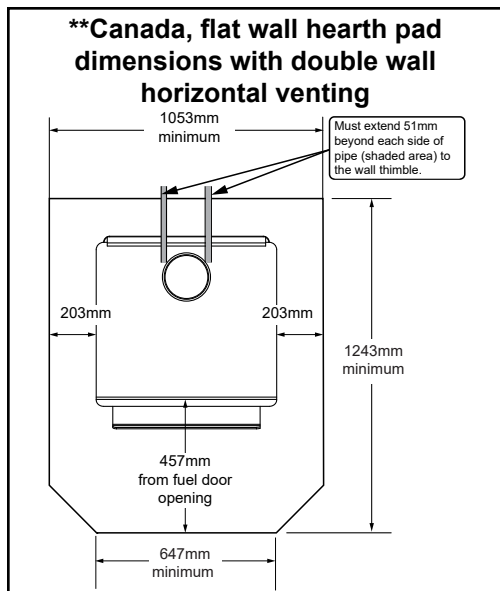

Figure 9.2 - \*\*This dimension will vary depending installation.
**In Canada,** similar floor protection must be provided 18 inches (457mm) in front and 8 inches (203mm) from the sides and rear of the appliance unless the hearth pad is placed against the wall (**Figure 9.2**). Then the clearance may be reduced using double wall pipe and the **Clearance to Combustibles** table listed on **page 10**.
**\*Exception:** Non-combustible floor protector must extend beneath the flue pipe when installed with horizontal venting and extend 2 inches (51mm) beyond each side (**Figure 9.2**).